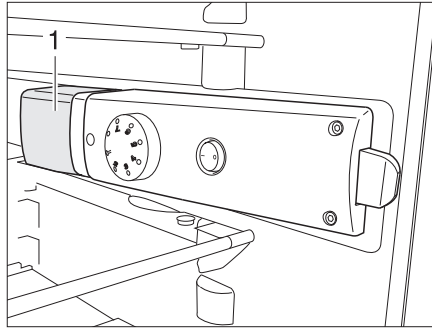

Fig. 366 Refrigerator light
- Grip under the light covering (Fig. 366,1) from behind and raise the light covering approximately 3 mm.